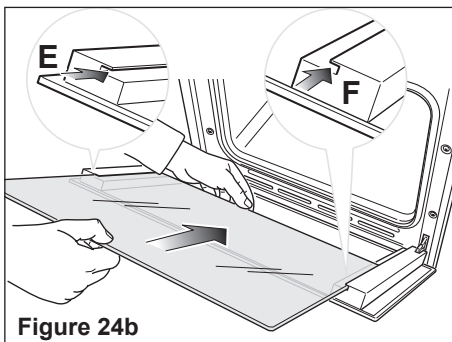
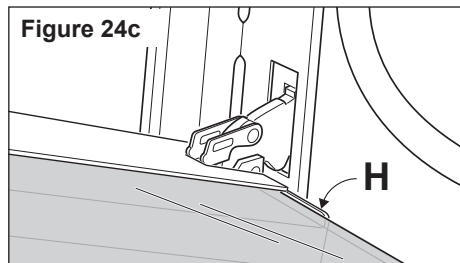

Figure 24b
Figure 24c
- Insert the pane in the left "E" and right "F" slide guides (fig. 24b), and gently slide it to the retainers "H" (fig. 24c).